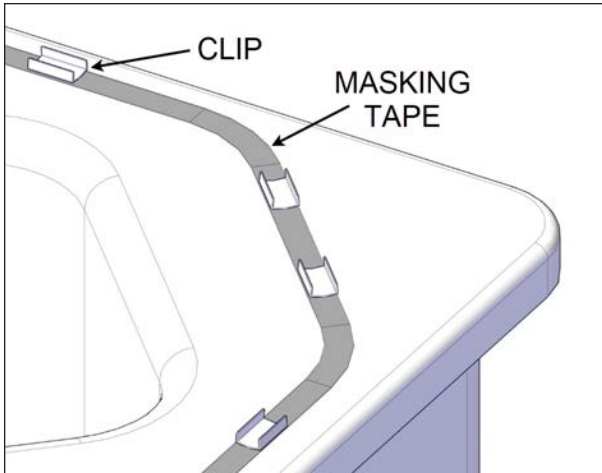
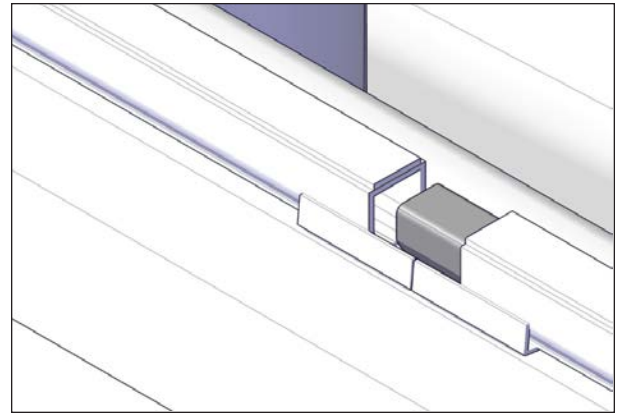
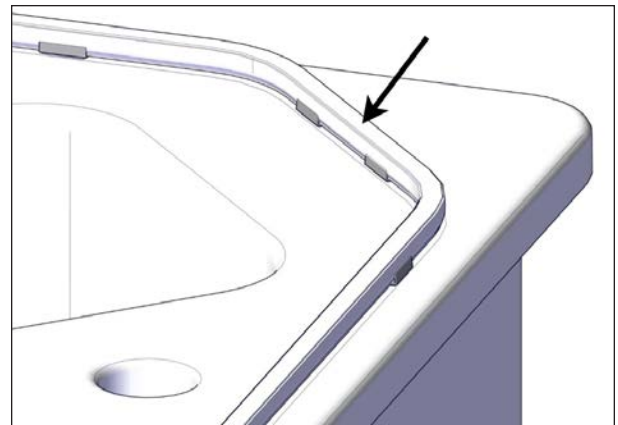

FIGURE 74: MASKING TAPE AND CLIPS
FIGURE 75: SEAL JOINT CONNECTOR
FIGURE 76: SEAL INSTALLATION
4. The number of seal clips is limited. Temporarily install the clips all around the spa to ensure the best distribution (do not stick yet). The minimum turn radius for the seal is 4" (10 cm), see Figure 74. Keep two clips for the seal joint connector as shown in Figure 75. Once the distribution is done, stick the clips in place (on the tape if applied).
5. The seal joint starts on the opposite side from the spa entrance. Install two clips where the seal joint connector will be located, see Figure 75.
6. Start installing the seal joint with the adhesive layer facing up towards the cover, see Figure 75 and Figure 76.
8. Insert the supplied seal connector in both ends of the seal. The use of masking tape to hold the two ends is recommended, see Figure 75.